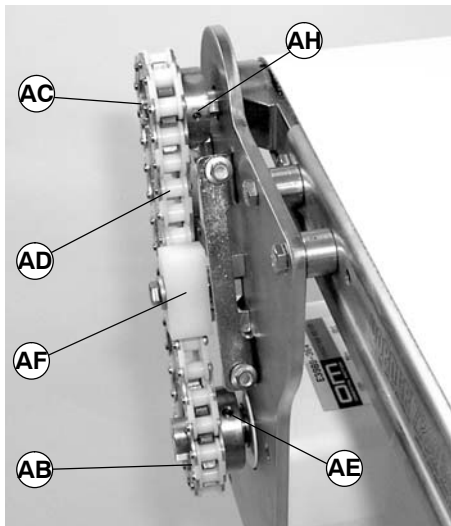

Figure 14
**IMPORTANT:** Make sure center of timing chain (AD of Figure 14) aligns with center of chain tensioner (AF). If necessary, loosen two set screws (AE) to move drive sprocket (AB) in or out. Tighten set screws. Also, if necessary, loosen two set screws (AH) to move driven sprocket (AC) in or out. Tighten set screws.